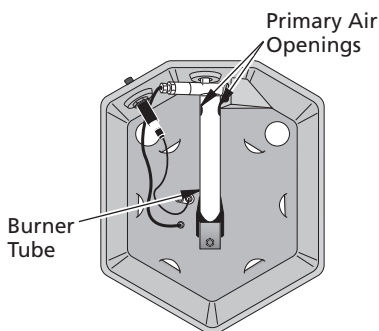

Figure 14 - Bottom View of Heater
To check for correct burner flame, stand above but to the side of heater and look through the ventilation holes in the top of the heater to see the burner flame. Keep a safe distance from heater to prevent burns. The burner flame should be mostly blue with slight yellow coloring on the ends. If the burner flame is mostly yellow, the primary air openings on the burner tube under the heater base may be blocked (See Figure 14).
2. Turn heater over and remove heat shield. Locate the primary air openings on the burner tube (See Figure 14). Remove any debris blocking the primary air openings.